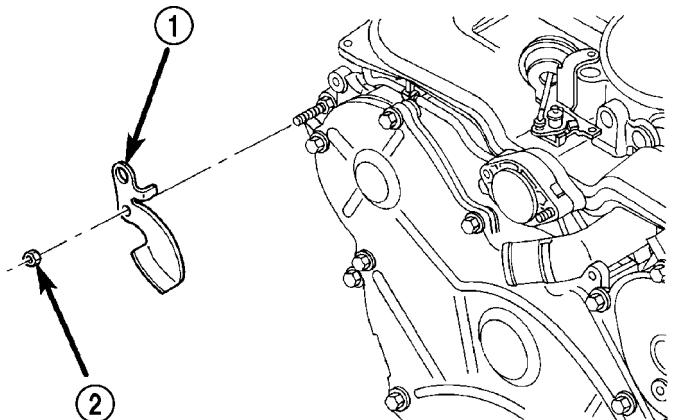

Fig. 134 A/C BELT GUIDE/LIFT BRACKET
(7) Remove the A/C belt guide/lift bracket (Fig. 134).
(3) Install A/C belt guide/lift bracket (Fig. 134).